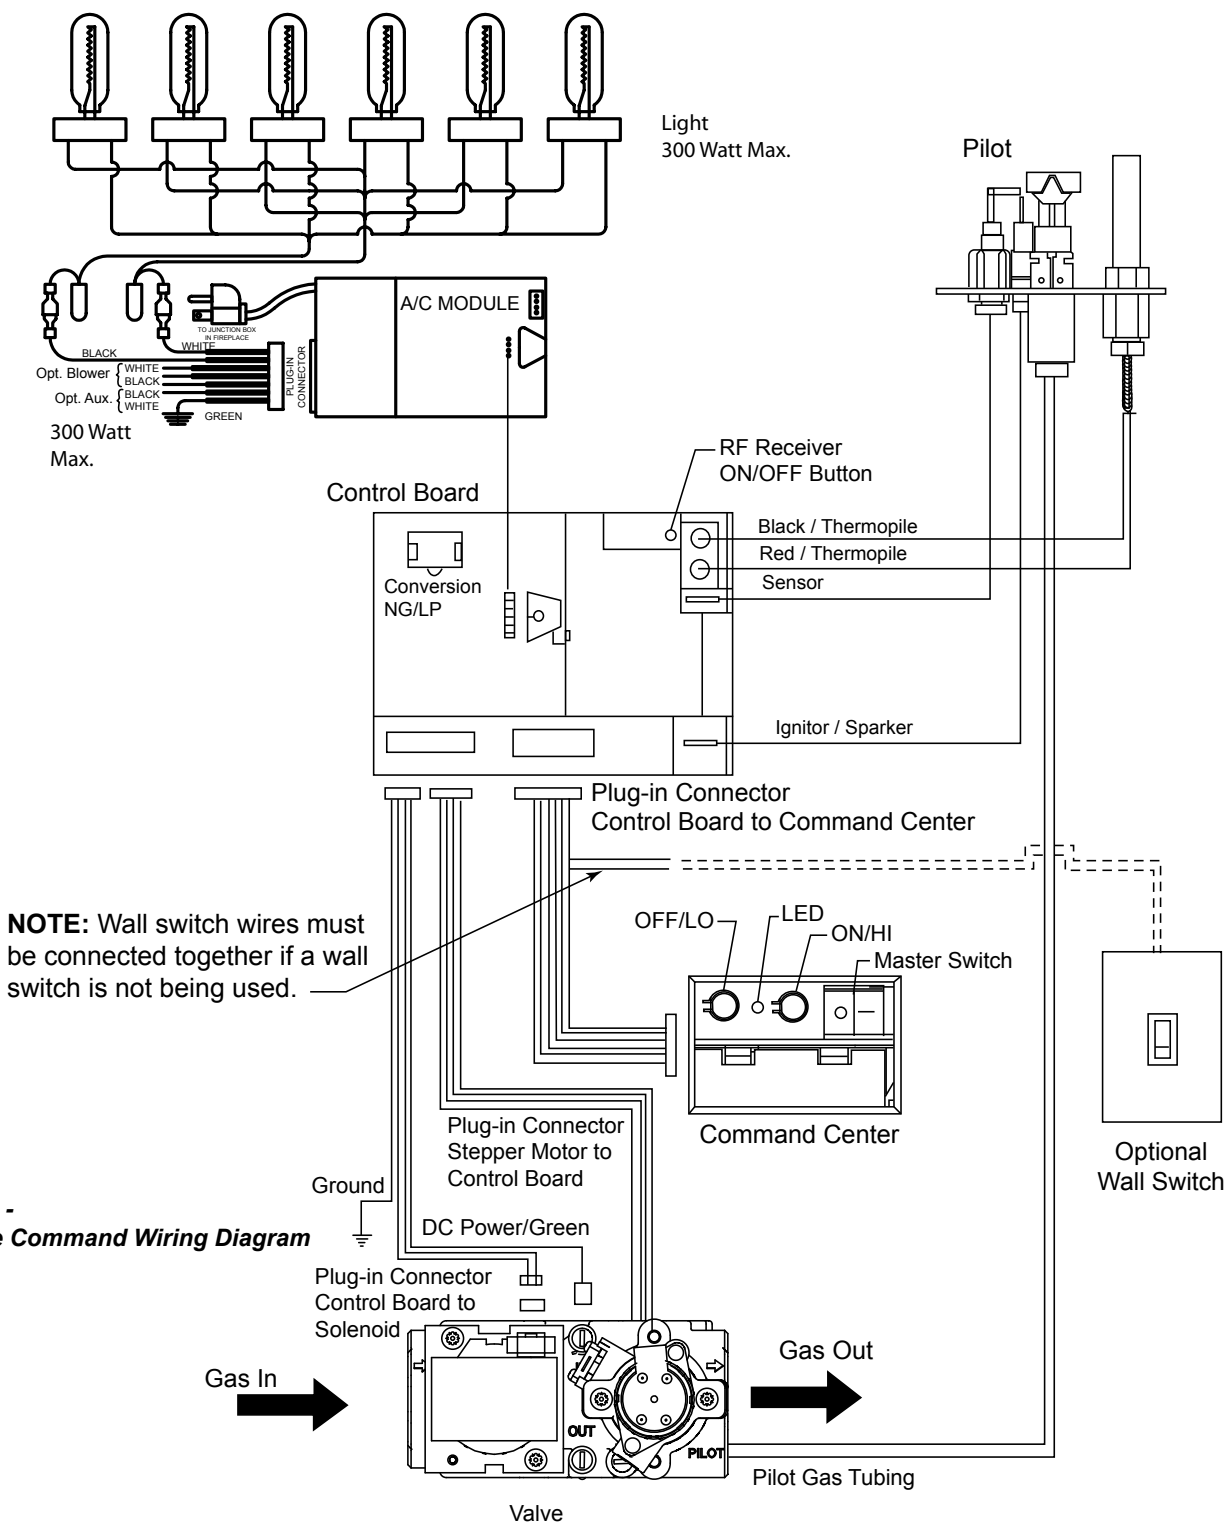

Figure 35 - Signature Command Wiring Diagram
The wall switch wire connection is located off the 2 ft. wire harness from the control box to the command center. *Figure 35*. The connection is labeled "Wall Switch". Unplug the male and female connectors and connect the two (2) low voltage wires provided. Run wire to desired location on wall. Up to 50 ft. of 18 ga. wire may be used if necessary. Attach wires to wall switch. Mount the wall switch in to junction box and screw on cover.